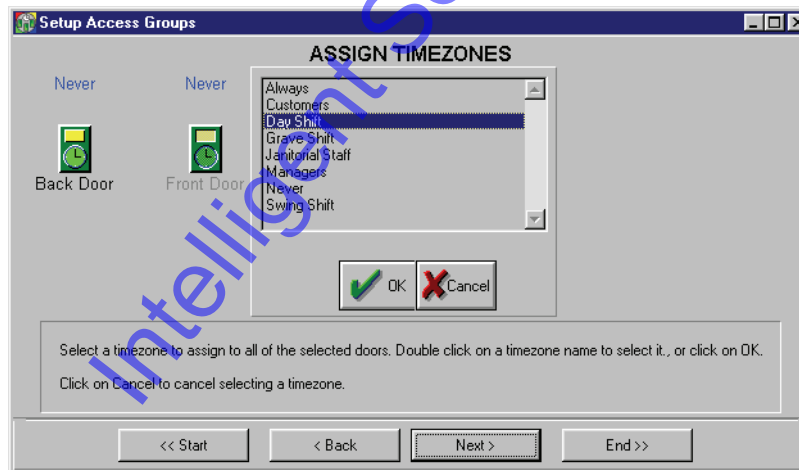

Figure 3-35: Assigning Timezones to Doors in the Access Group
8. Click on the **Back Door** icon. A time zone list window appears in the middle of the Assign Timezones access group window (see Figure 3-35).